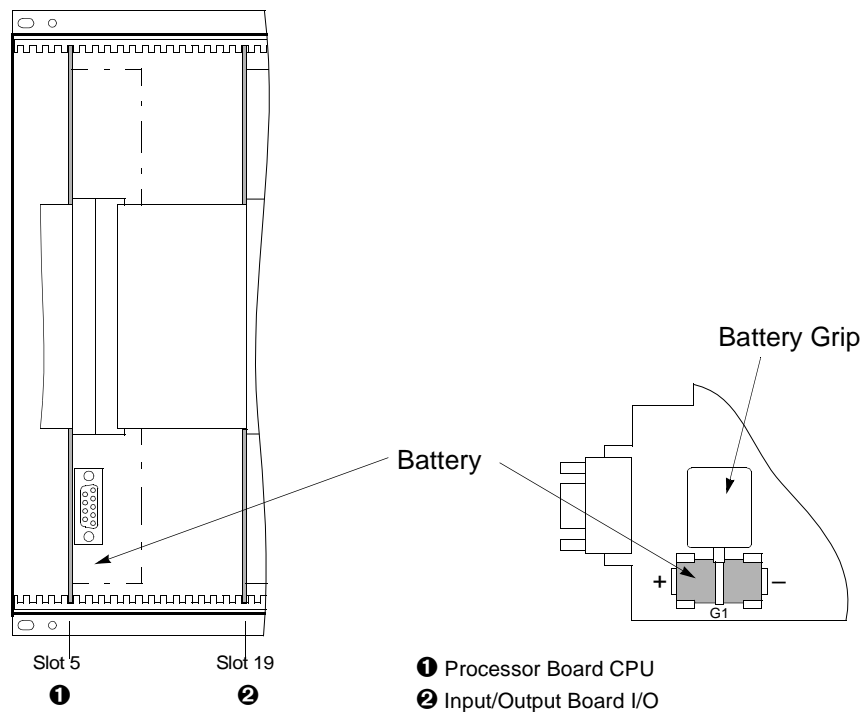

Figure 9-1 Front View without Front Panel – Position of Buffer Battery (simplified and reduced)
- The battery is located on the bottom-front side of the CPU (❶) board. See Figure 9-1.
- Remove the old battery from the snap-on connector using the plastic battery grip shown in Figure 9-1.
- Observing the polarity and firmly insert the new battery into the snap-on connector shown in Figure 9-1.
- Connect the ribbon-cable between the CPU (①) board and the front panel. Be especially careful not to bend any of the connector pins! Do not use any force! Be sure that the plug connectors latch.